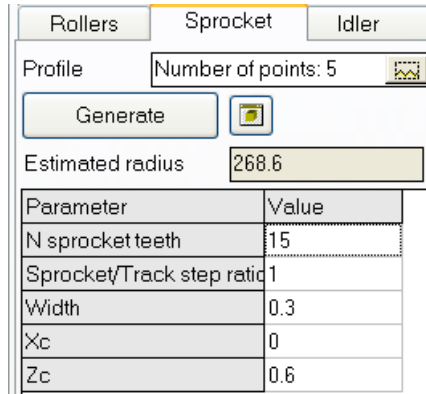

Fig. 12 Geometric parameters of sprocket
Open the **Parameters | Sprocket** tab, Fig. 12.
2) Set number of teeth, t_w / t_t ratio and geometric parameter: width of the wheel, the vertical and longitudinal coordinates of the wheel center, Fig. 12.